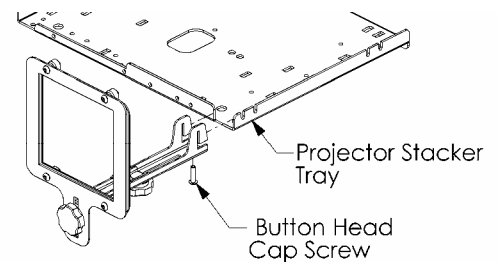

Figure 4
4. Slide Lens Mount into the opening in the front of the Projector Sacker Tray (not included). (Fig. 4)
5. Locate and align lens with projector lens and tighten Knobs. Using 1/8" Hex Key, secure Lens Mount to Stacker Tray with (1) Button Head Cap Screw. (Fig. 4)